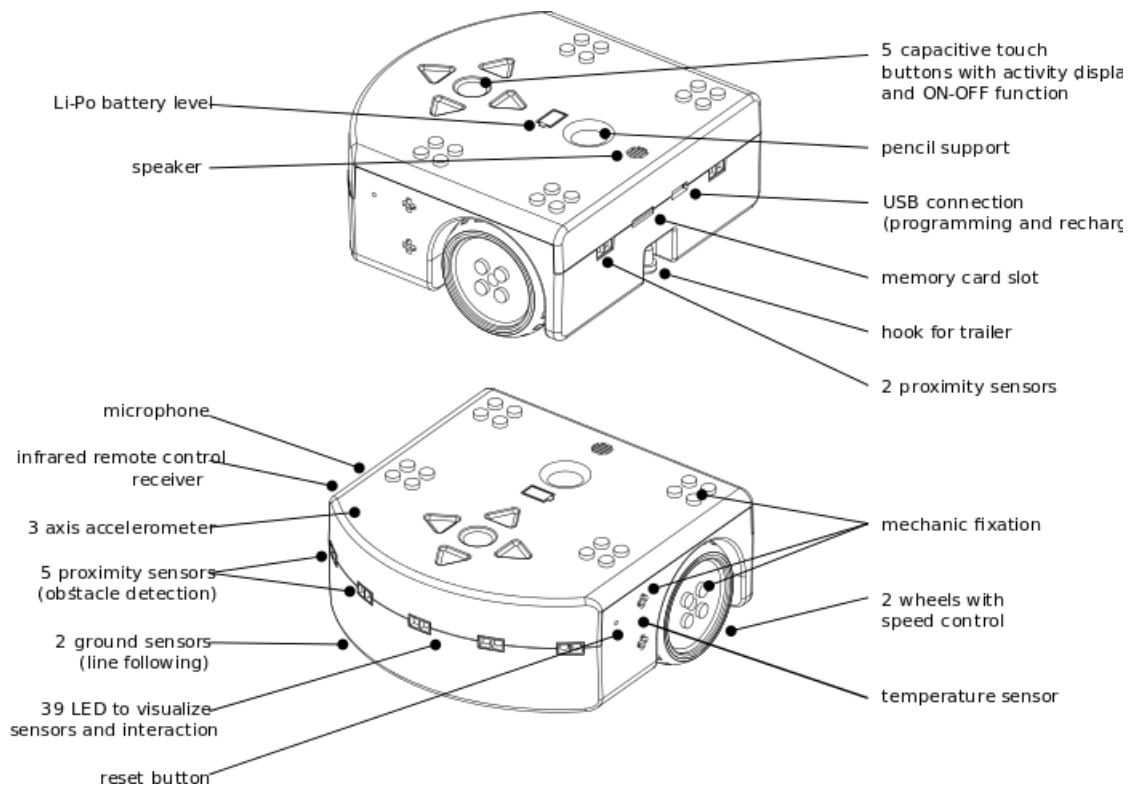

Figure 1: Sensors and actuators of Thymio II
**Thymio-II** [4] is a small differential-drive robot with a large number of sensors and actuators, as shown in Figure 1. The robot is programmable using Aseba - an event-based architecture. The robot comes with pre-programmed behaviours, namely: